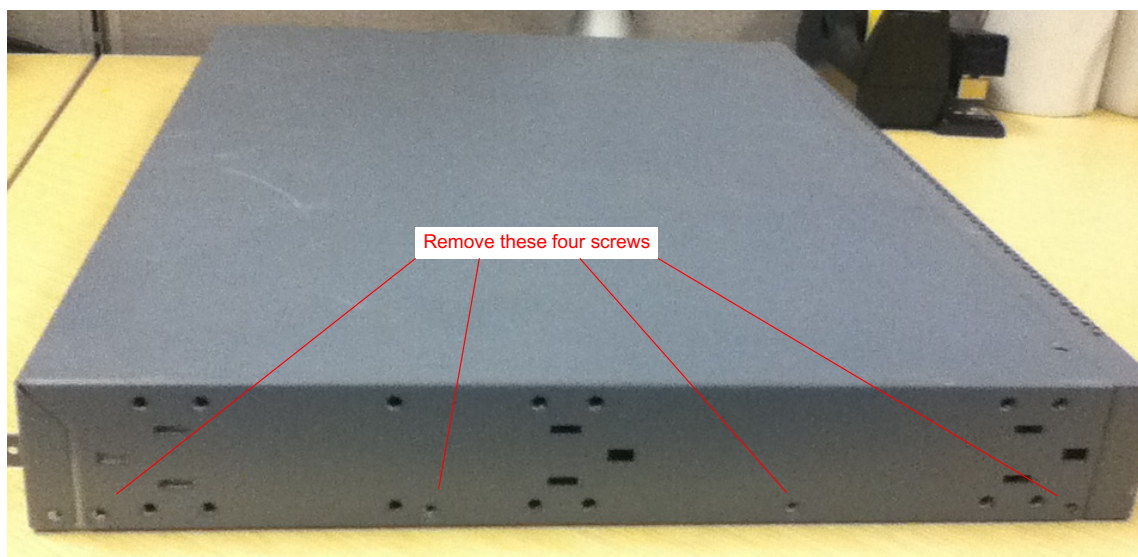

Figure 3-3: EX3300 Right side screws
| Figure 3-3: EX3300 Right side screws..... | 4 |
3. Remove four screws from right side of chassis (Figure 3-3)